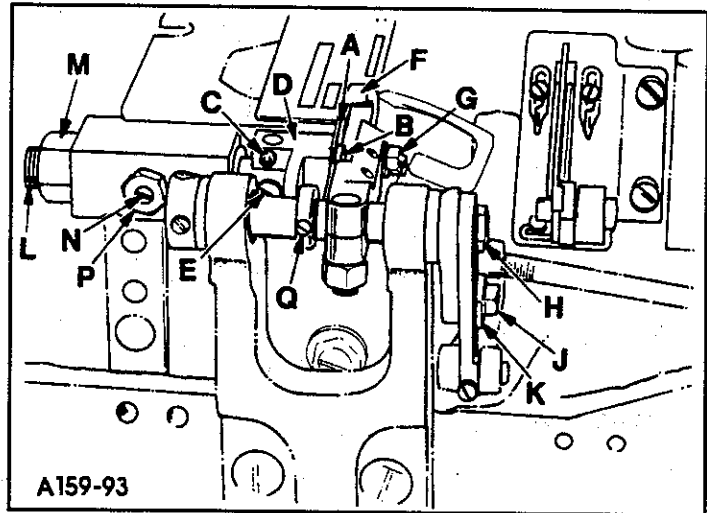
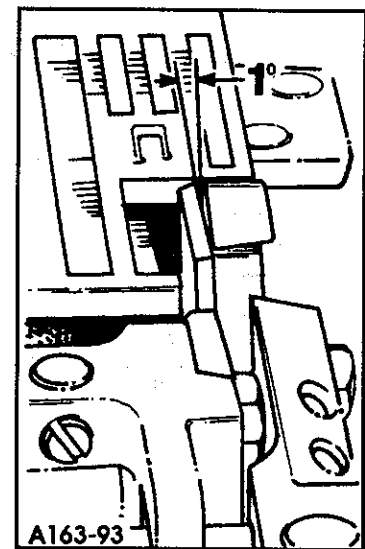

FIG. 22
FIG. 23
The lower knife (A, Fig. 22) should be set with cutting edge flush with throat plate surface, at approximately a one degree shear angle Fig. 23. Adjustment can be made by loosening hexagonal head screw (B, Fig. 22) permitting lower knife to be moved up or down; loosening two screws (C) will allow positioning of lower knife block (D) to obtain the proper shear angle. Never loosen screw (E) for adjusting purposes, it should remain tight at all times. After adjustments are made, tighten screws (B and C) securely.